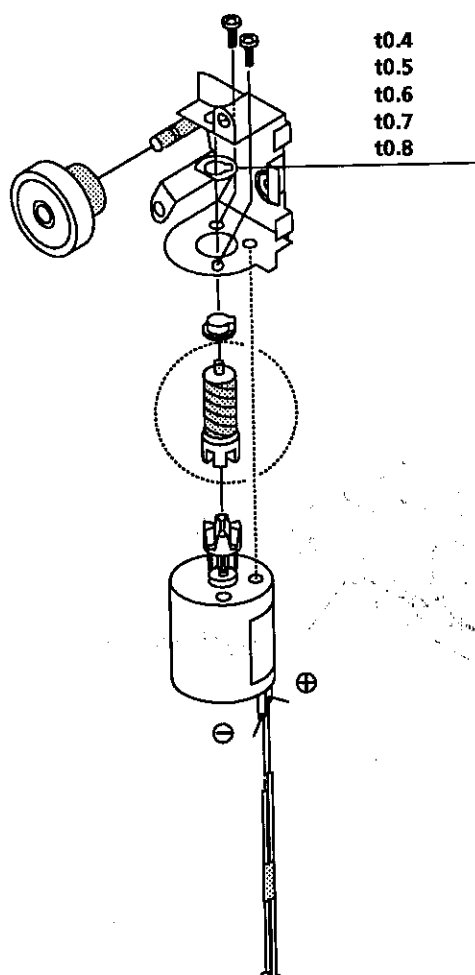

Figure 4-53.
- ① Take out the old loading motor. Place a replacement loading motor as shown above (figure 4-53.).